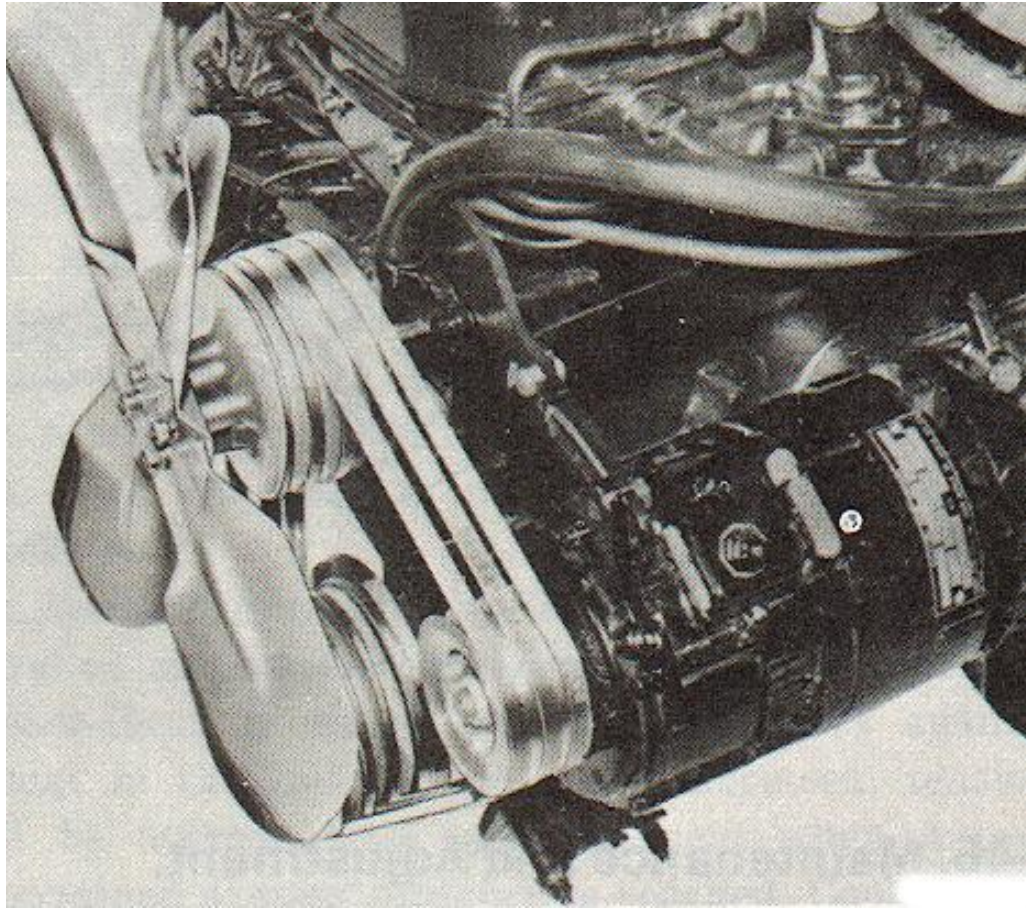

FIGURE 2-24. Fan Belts Installed
(1) Install drain plug in left side of cylinder block, and in lower right side of radiator assembly. Tighten radiator drain plug and cylinder block drain plug securely.
(2) Fill radiator with proper seasonal coolant solution to within 2-inches of filler opening.
(3) Install radiator cap. Start engine and run at idling speed.
(4) Carefully check radiator hose connections, coolant pump and thermostat housing attaching nuts and around cylinder heads for leakage.
(5) Carefully remove radiator cap and check coolant level. Fill as required to within 2-inches of filler opening.
(6) Install radiator cap and shut down engine.
j. Adjusting Drive Belt Tension. (Fig 2-24)
(1) Loosen front and rear alternator mounting bolts, and brace attaching bolt.
(2) Place a straightedge on the belt between alternator and coolant pump pulley.
(3) Adjust belt tension by moving alternator until there is a measured deflection of 1/2-inch for a new belt, 3/4-inch for a used belt at midpoint between alternator and coolant pump pulleys when pushing belt down firmly.
(4) Tighten alternator brace bolt.
- (5) Tighten front and rear alternator mounting bolts.
- (6) Recheck belt tension. Readjust as required.